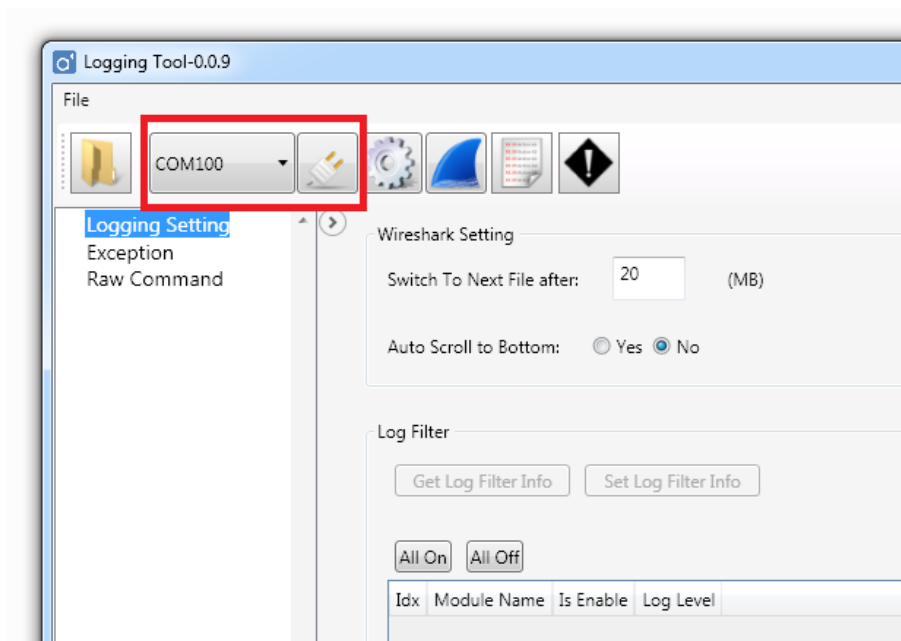

Figure 12. Serial Port Connect Button
- 4) Select "Serial port" and click connect as shown in Figure 12.